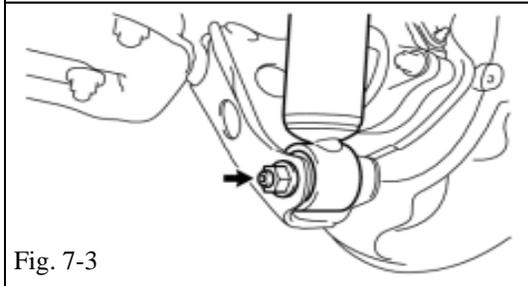

Fig. 7-3
- (g) Remove and save the OE lower shock bolt and nut, and disconnect the shock absorber lower side from the axle housing. (Fig. 7-3)
- (h) Temporarily install the lower side of the new TRD shock absorber with the OE bolt and nut. (Fig. 7-3)